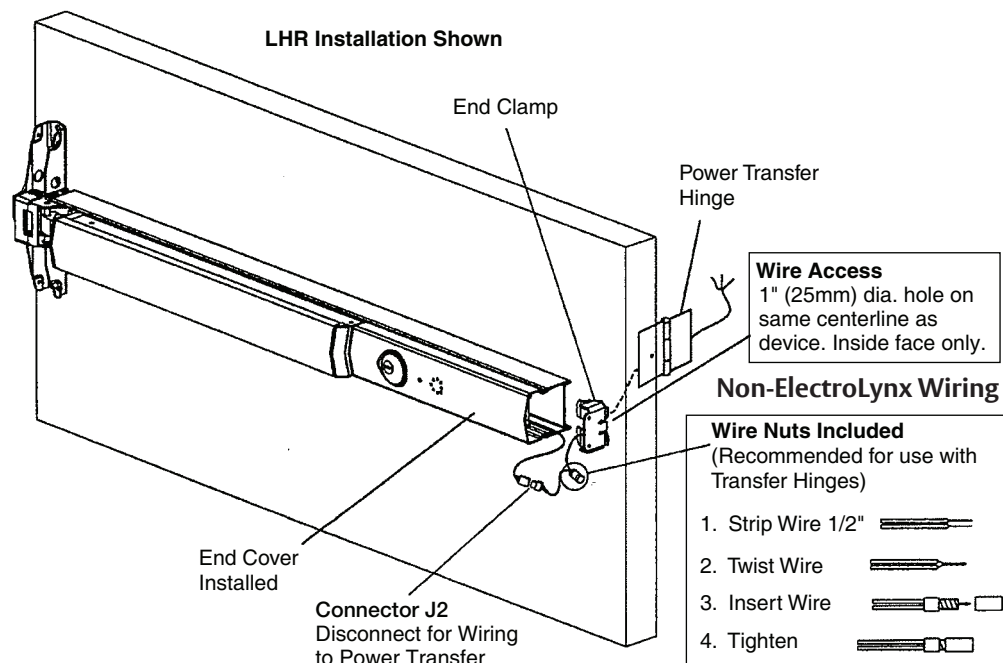

Figure 4
2. Feed wires from power transfer through wire access hole in door. (Figure 4)